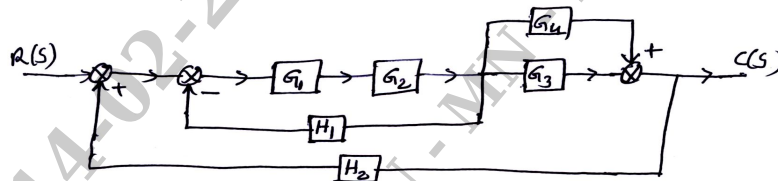

Fig.Q6(a)
- 6 a. Draw the corresponding signal flow graph of a given block diagram in Fig.Q6(a) and obtain transfer function by using Mason's gain formula.